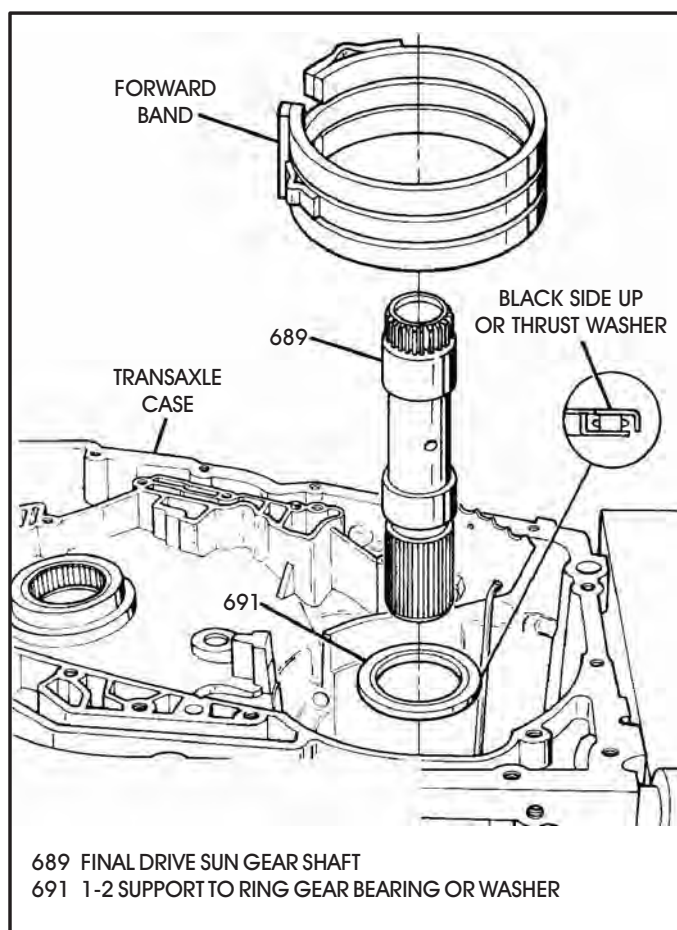

Figure 171
18. Rotate the transaxle so that side cover surface is facing up, as shown in Figure 171.
19. Ensure that final drive sun gear shaft is fully seated and that thrust washer or bearing is in place, as shown in Figure 171.
20. Install the forward band assembly into the case as shown in Figure 171, ensuring that the band is engaged on the anchor pin.